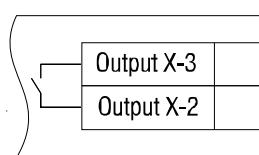

Fig. 4.9 Relay output Q1...Q4
- The outputs should be wired in accordance with Fig. 4.9...4.17.